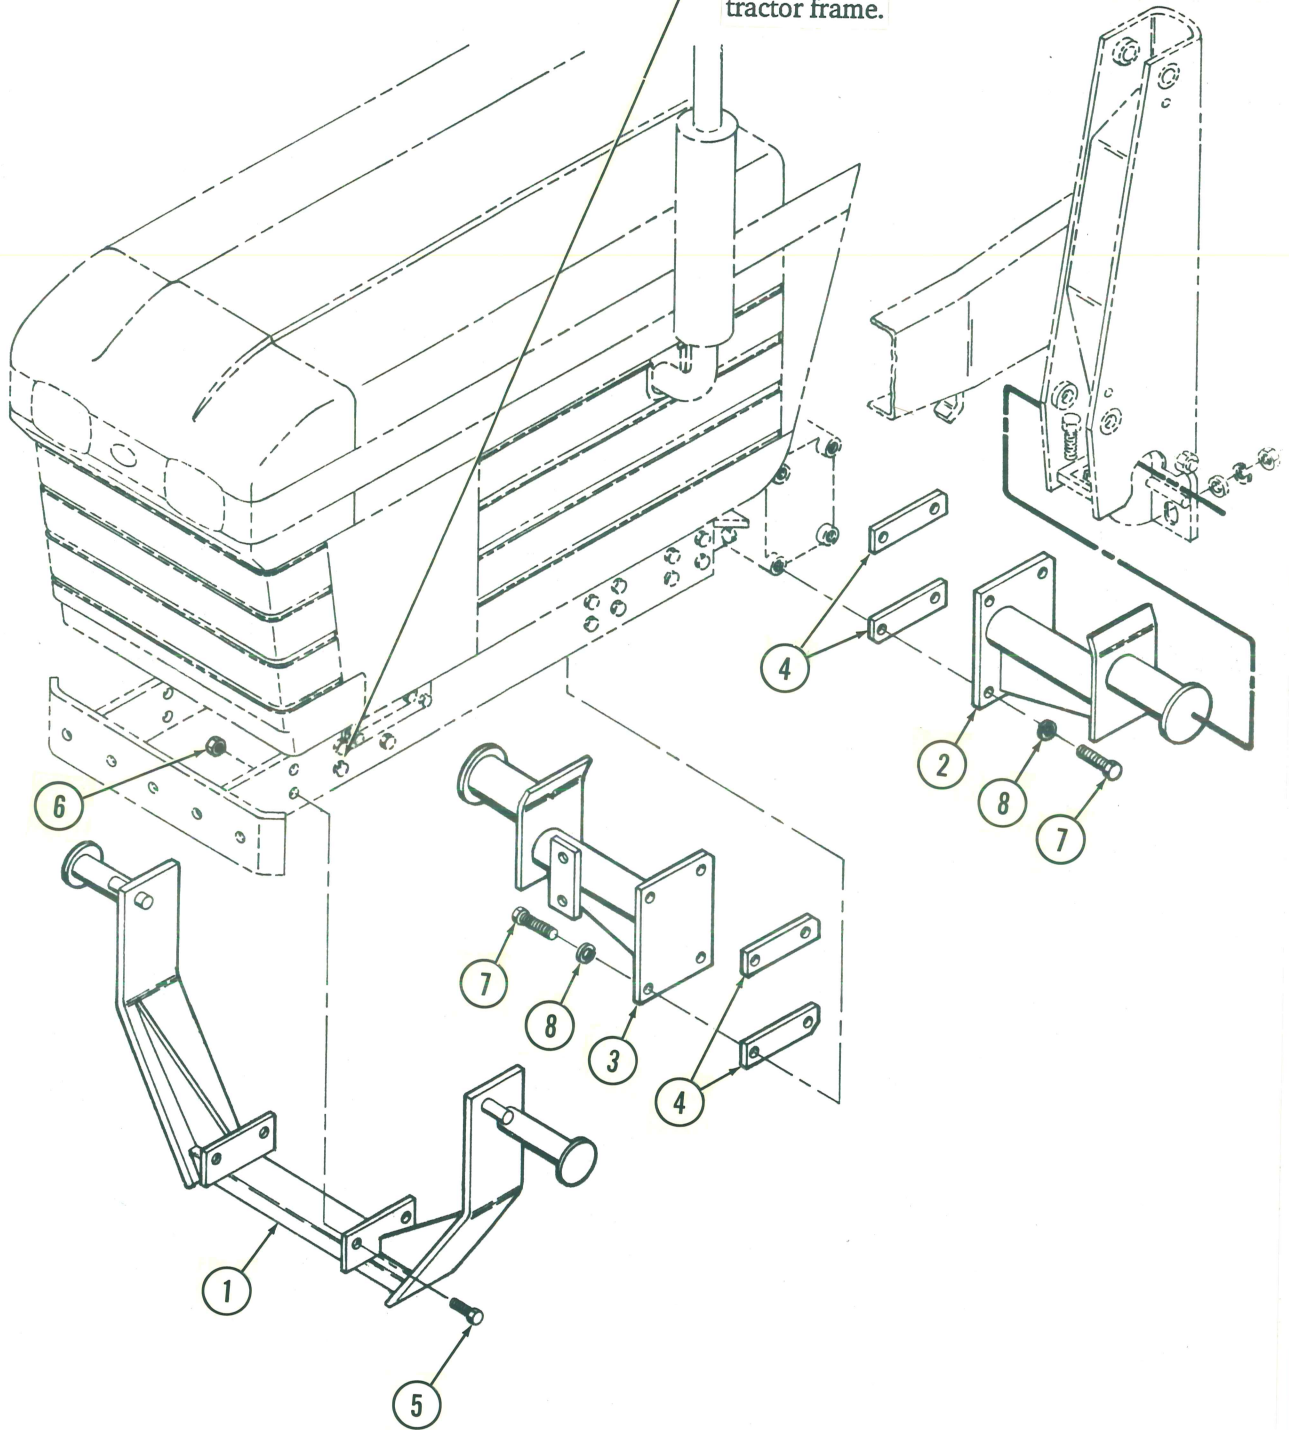

Figure 1
1. Fasten front mounting bracket (1) to each side of tractor front frame using 1/2 x 1-3/4 cap screws (5) and lock nuts (6).
2. Placing spacers (4) between tractor transmission casting and left mid mounting bracket (2) with chamfered corner of upper spacer to the upper rear, fasten left mid mounting bracket (2) and spacers (4) in place with M16 x 50 metric cap screws (7) and lock washers (8) (Figure 1).
3. Fasten remaining spacers (4) and right mid mounting bracket (3) to right side of tractor (with chamfered corner of upper spacer to upper rear) using M16 x 50 metric cap screws (7) and lock washers (8) (Figure 1).